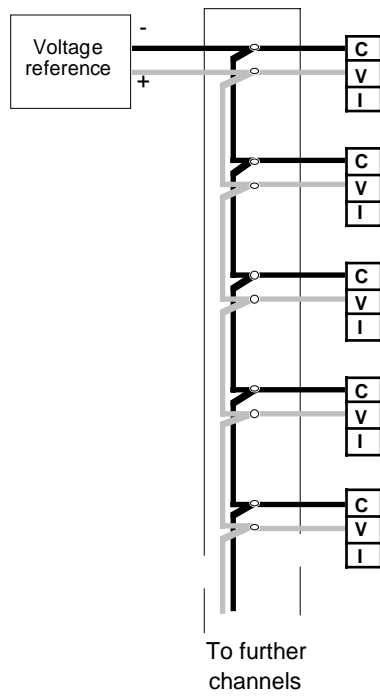

Figure 3.2.1
1. Connect all the channels to be checked to the voltage reference as indicated in figure 3.2.1. Ensure that the recorder rear terminal cover is in place after wiring.